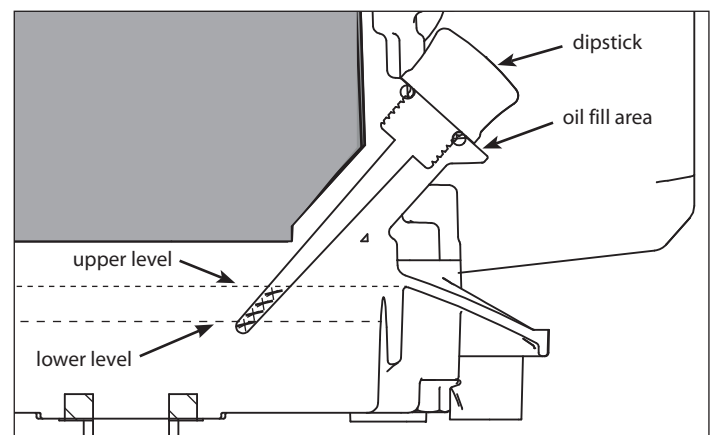

FIGURE 9: Dipstick and oil levels
3. Tip engine back onto a level surface and fill with appropriate oil to the top of the marking on the dipstick (**SEE FIGURE 9**). **DO NOT OVERFILL.** For proper oil capacity, see the engine manufacturer's instructions.
4. Reinsert dipstick and tighten. **SEE FIGURE 9**